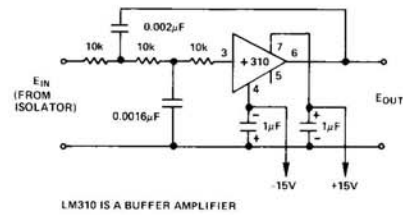

Figure 13. 2-Pole, 5kHz Active Filter
- ⁴ G = 1V/V, with 2-pole, 5kHz output filter (see Figure 13).
Noise Reduction in Data Acquisition Systems: Transformer coupled isolators must have a carrier to pass dc signals through their signal transformers. Inevitably some carrier frequency ripple passes through to the isolator output. As the bandwidth of an isolator becomes a larger fraction of its carrier frequency, this ripple becomes more difficult to control. Despite this difficulty, the model 289 produces very low ripple; therefore, additional filtration will usually be unnecessary. However, in some applications, particularly where a fast analog-to-digital converter is used following the isolator, it may be desirable to add filtration; otherwise, ripple may cause inaccurate conversions. The 2-pole low-pass shown in Figure 13 limits isolator bandwidth to 5kHz, which is the full power bandwidth of the model 289. Carrier ripple is much reduced. Another beneficial effect of an output filter is smoothing of discontinuous high frequency waveforms.